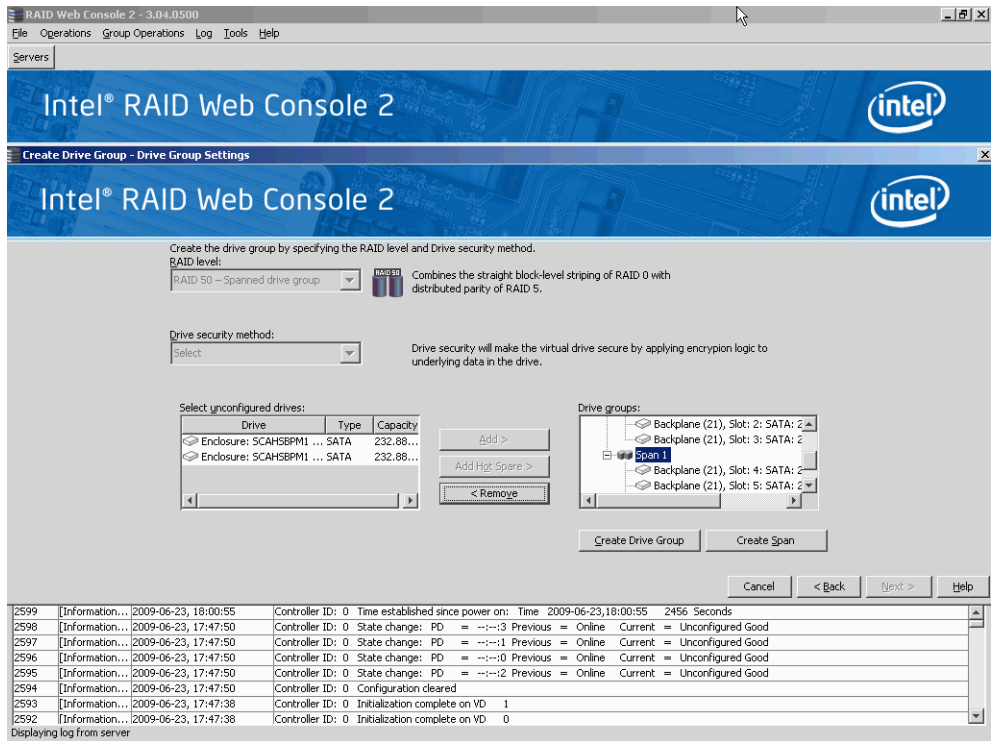

Figure 50. Span 0 and Span 1 of Drive Group 0
- The selected drives appear under **Span 1** below **Drive Group 0**, as shown in Figure 50